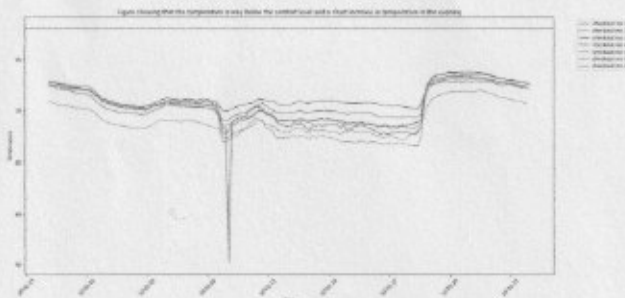

Fig. 2: Temperature at Check stand
- There is a sharp increase in temperature of some zones at around 6.30 pm which requires explanation. (Figure 2).